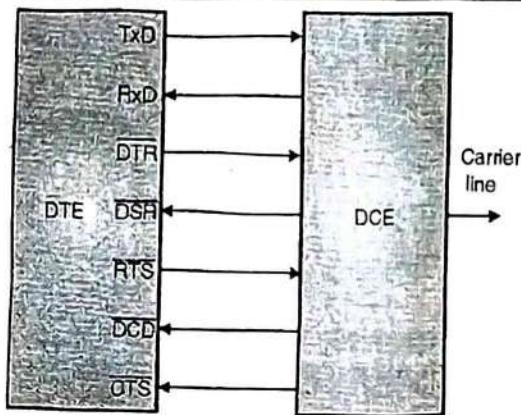

Fig. 9.2.1 : Connection between DTE and DCE
- The DTE and DCE are connected this is shown in the Fig. 9.2.1 moments to implement the RS 232 protocol.